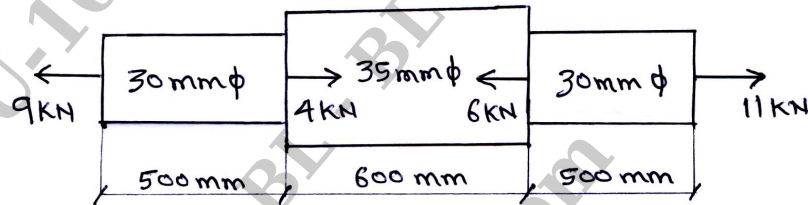

Fig.Q1(c)
- c. Find the elongation of the bar shown in Fig.Q1(c). Take $E = 210 \text{ GN/m}^2$.